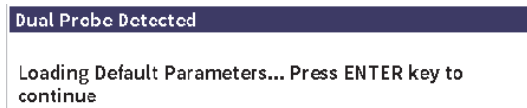

Figure 11-33 Probe detected dialog box
If an Evident thickness gage dual transducer is connected to the EPOCH 6LT, a dialog box will prompt you to press the Enter key to continue (see Figure 11-33 on page 214).
9. If using a transducer without the center pin, select a probe on the **Transducer Setup** page after activating the Corrosion Module (see Figure 11-33 on page 214).